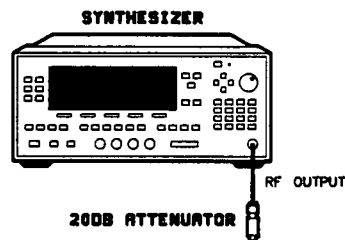

Figure 2-7. Maximum Leveled Power Test Setup
1. Turn on the equipment shown in figure 2-7. Preset the synthesizer and let it warm up for at least one hour.
3. Connect the equipment as shown in figure 2-7.